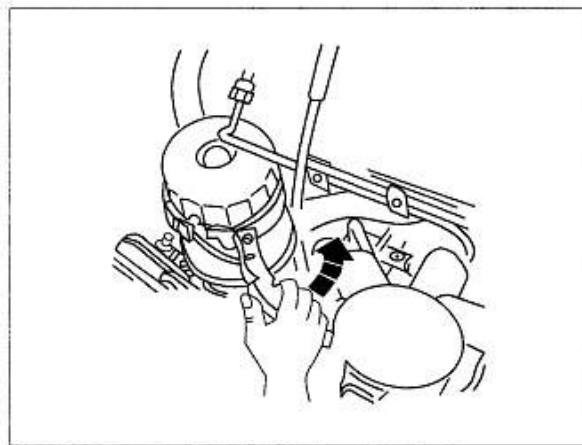

Figure 2-4 Replace Oil Filter Cartridge
2.8.6 Maintenance of oil filter (see Figure 2-4, 2-5)